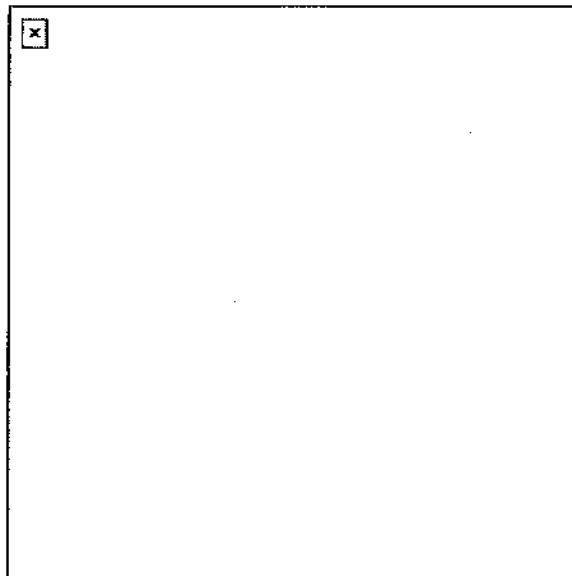

Figure 6. Reinforced loopholes.
- (3) Use sandbags or other material to reinforce the walls around loopoles (Figure 6).